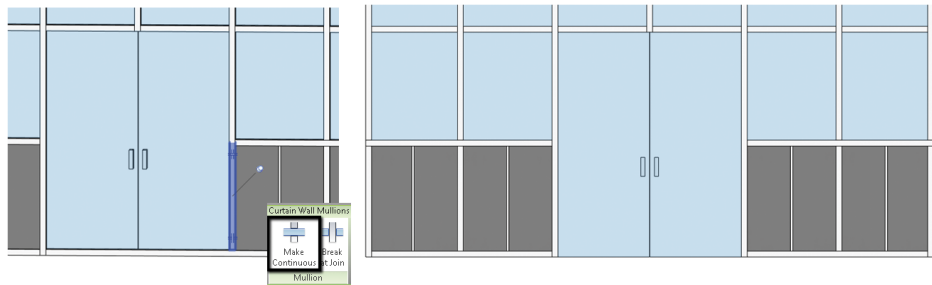

FIGURE 2.32 Final curtain wall
3. After adding the door, select the lower vertical curtain wall mullions on either side of the door (there are two mullions on each side) and toggle the mullion join to Make Continuous. This will extend the curtain mullions to the base of the curtain wall (first image in Figure 2.32).
4. Next, remove the rectangular curtain wall mullions directly under the Curtain Wall Dbl Glass panel. Select both pinned curtain wall mullions (in the same selection set) and use the Unpin tool. Once they're unpinned, you can press the Delete key to remove the curtain mullions (second image in Figure 2.32).